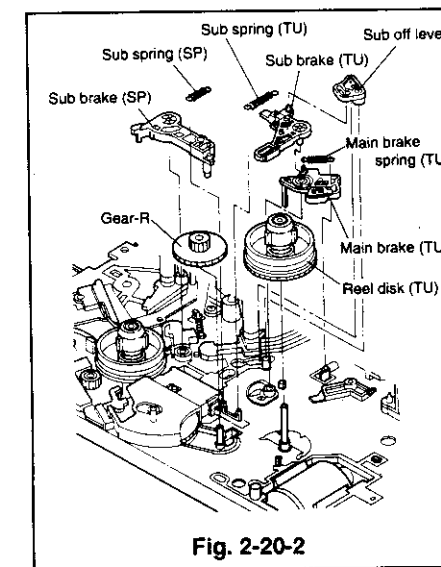

Fig. 2-20-2
- 5 Raise the gear R (takeup side) upward to remove it from the shaft. (Refer to Fig. 2-20-2.)
- 1 Install the gear R (takeup side) on the shaft. (Refer to Fig. 2-20-2.)
- 2 Install the takeup reel disk on the shaft. (Refer to Fig. 2-20-2.)